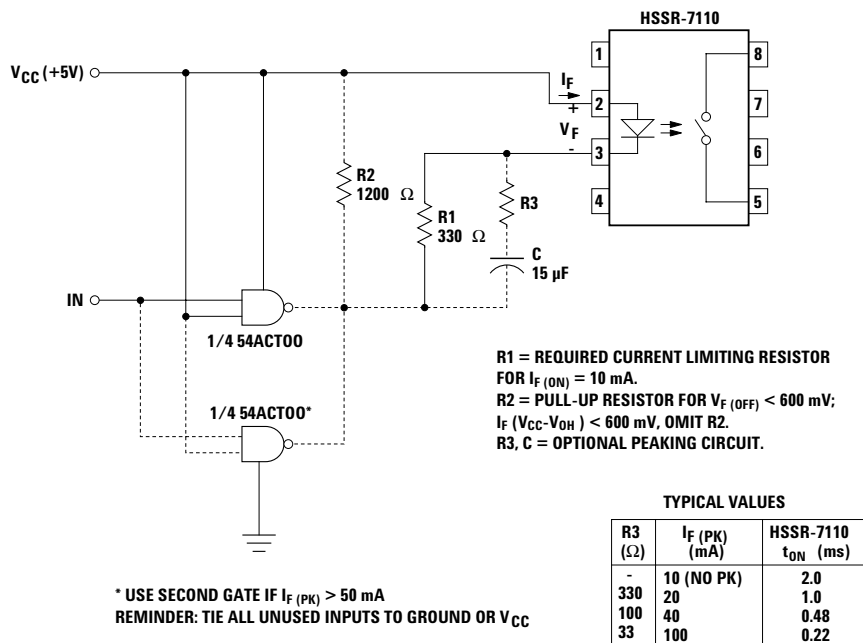

Figure 1. Recommended Input Circuit.
- For a faster turn-on time, the optional peaking circuit shown in Figure 1 may be implemented.
Input Circuit: The drive circuit of the electro-mechanical relay coil needs to be modified so that the average forward current driving the LED of the HSSR-7110 does not exceed 20 mA. A nominal forward drive current of 10 mA is recommended. A recommended drive circuit with 5 volt V_{CC} and CMOS logic gates is shown in Figure 1. If higher V_{CC} voltages are used, adjust the current limiting resistor to a nominal LED forward current of 10 mA. One important consideration to note is that when the LED is turned off, no more than 0.6 volt forward bias should be applied across the LED. Even a few microamps of current may be sufficient to turn on the HSSR-7110, although it may take a considerable time. The drive circuit should maintain at least 5 mA of LED current during the ON condition. If the LED forward current is less than the 5 mA level, it will cause the HSSR-7110 to turn on with a longer delay. In addition, the power dissipation in the output power MOSFETs increases, which, in turn, may